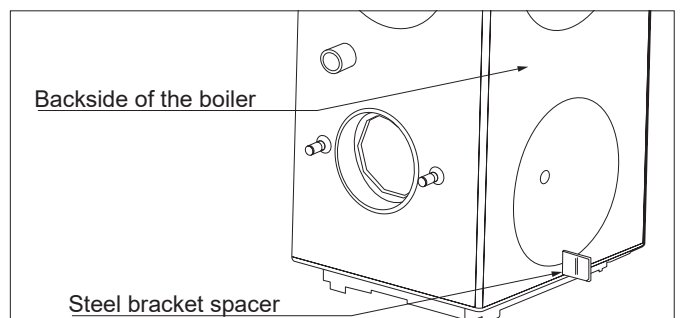

**Figure 4-6:** Removing baffles from boiler shell
19. Remove baffles from boiler shell. (See Figure 4-6).